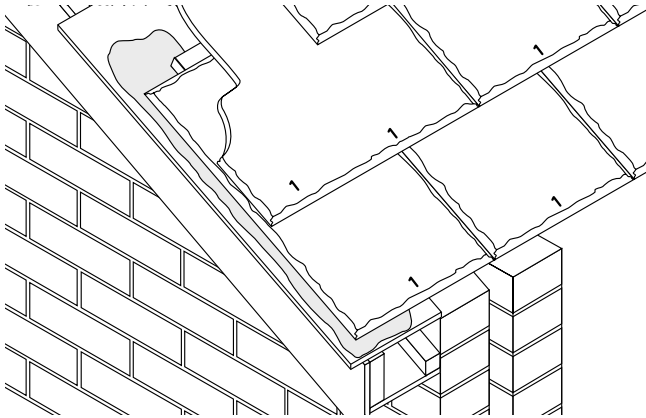

Fig. 22 - Bedded verge on bargeboard with fibre cement undercloak
- 3 Neatly point to form a weathered profile giving 5mm overhang of slates over the mortar. Make sure that the mortar is not displaced or cracked when nail-fixing the roof slates [Fig. 22].